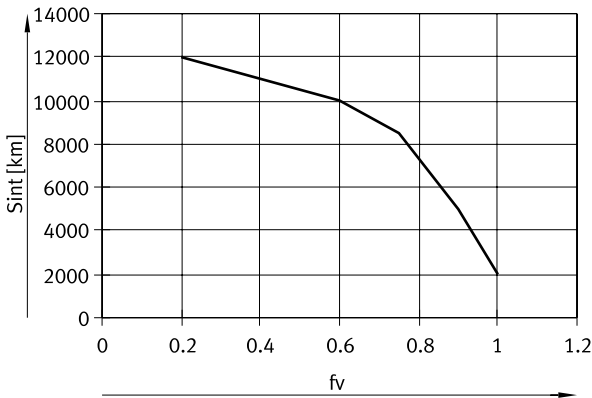

Fig. 12
- Cut the lubrication interval  $S_{int}$  (→ Fig.12) in half if any of the following situations apply:
1. Calculate the load comparison factor  $f_v$  with the help of the formula for combined loads (→ 12 Technical data) and determine the lubricating interval  $S_{int}$  (→ Fig.12).